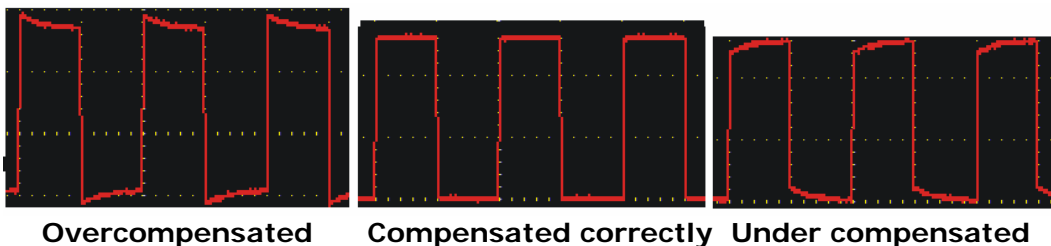
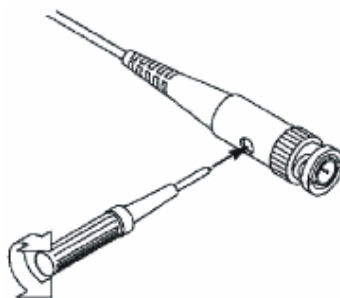

Figure 6. Displayed Waveforms of the Probe Compensation.
Figure 7. Adjust Probe.
- 2 Check the displayed waveforms and regulate the probe till a correct compensation is achieved (see Figure 6 and Figure 7).